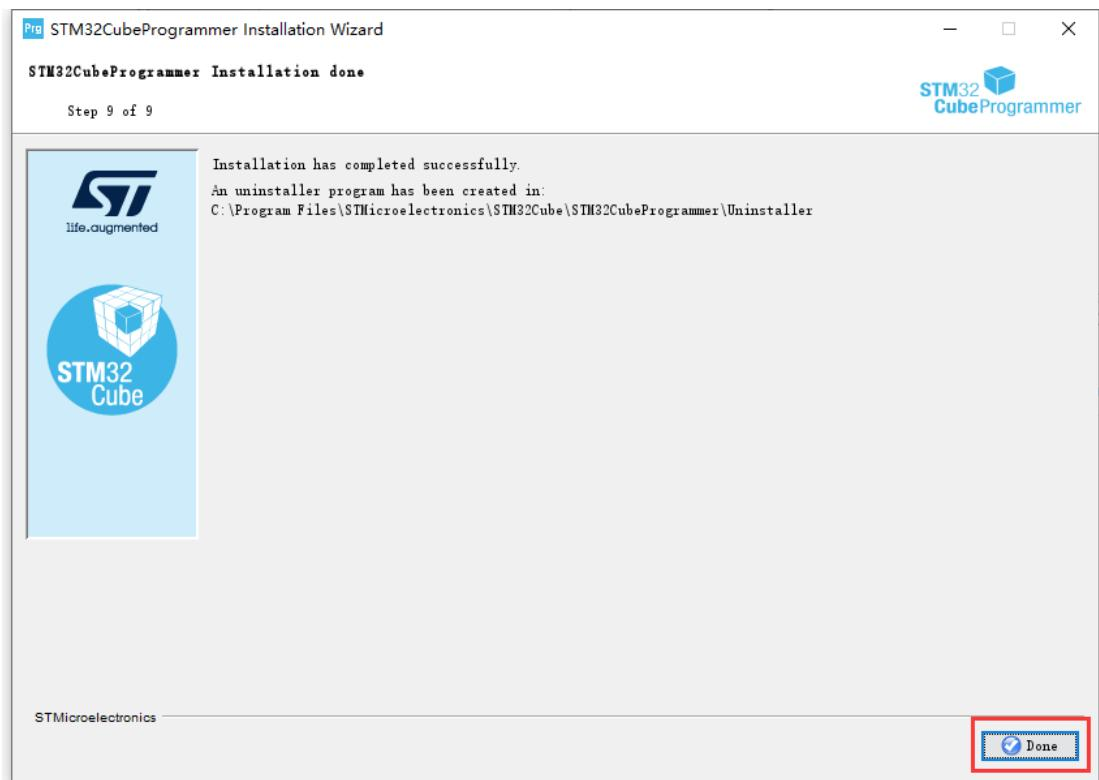

Figure 8-10
- 11) Click "Done" to complete the installation, as shown in Figure 8-10: